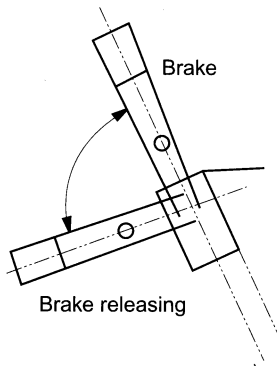

Figure1-16 Positions of control lever
1.5.5 Parking Brake (Emergent Braking) (Figure 1-16 & 1-17)